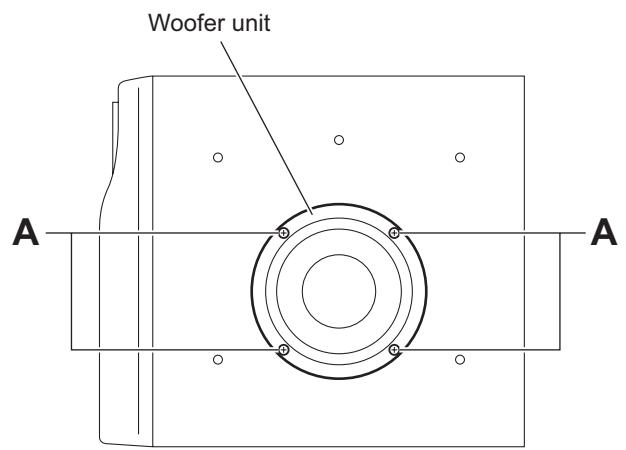
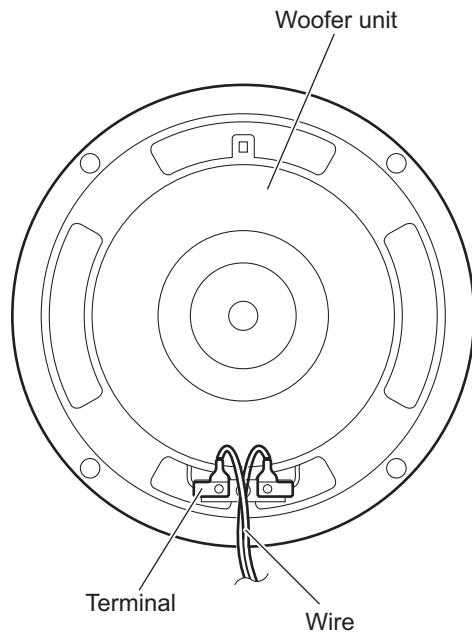

Fig.2
Fig.3
3.3.2 Removing the woofer unit (See Figs.2 and 3)
- (1) Remove the four screws **A** attaching the woofer unit. (See Fig.2.)
- (2) Take out the woofer unit from the subwoofer main body.
- (3) From the back side of the woofer unit, disconnect the wire from the terminal. (See Fig.3.)